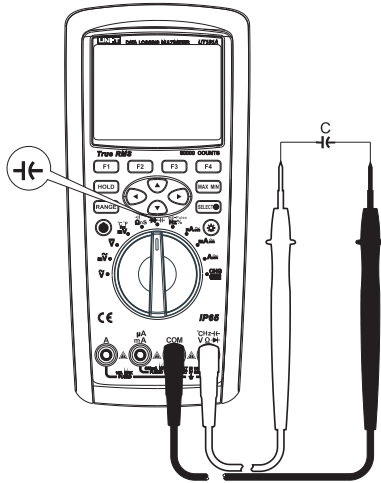

Figure 9
- 2) Set the rotary switch to the measurement  $\text{M}\leftarrow$  , press the key SELECT to select capacitance measurement. Connect the test leads to both ends of the measured capacitance as shown in Figure 9.